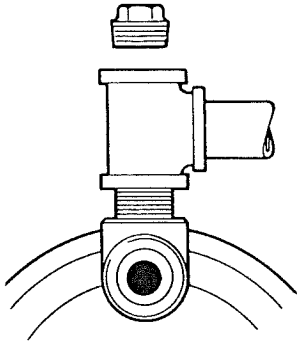

Figure 15—Remove Priming Plug
1. Remove priming plug (Figure 15).